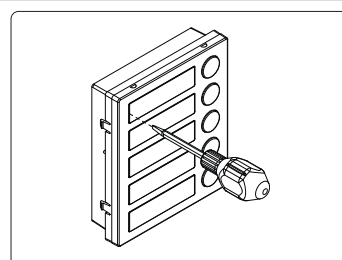

Fig. 12
- Insert the screwdriver (flat side) into the card-holder hole as shown in **Fig. 12**.